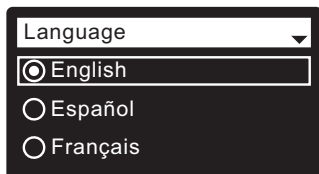

FIG. 17
- 1. LANGUAGE** If the desired language already has a dot next to it (See Figure 17), go to Step 2. Otherwise, press the filter’s DOWN (▼) or UP (▲) buttons to scroll to the desired language, then press the SELECT (○) button to choose it.